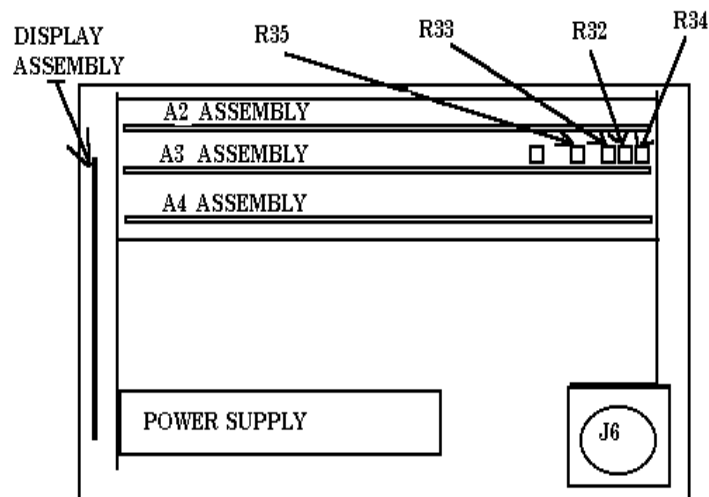

Figure 7. High speed I/O board A3 - adjustment locations.
(1) Adjust A3R32 (fig. 7) for a SUM pulse width between 0.7 and 0.9 μ s (R).
(2) Adjust A3R34 (fig. 7) for a DIFF pulse width between 0.7 and 0.9 μ s (R).
(3) Adjust A3R33 (fig. 7) for a pulse width between 0.4 and 0.6 μ s (R).
(4) Adjust A3R35 (fig. 7) for a pulse width between 0.4 and 0.6 μ s (R).